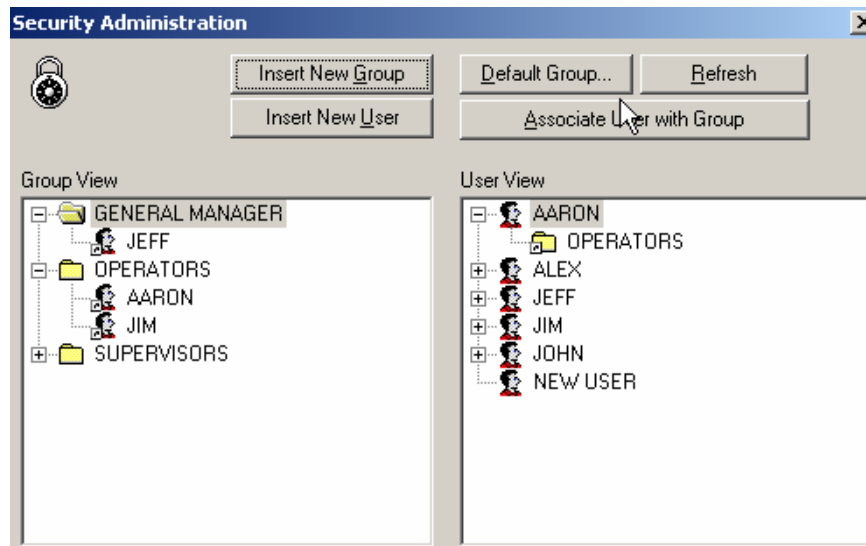

Figure 9.69. Editing the Default Group
1. To edit the default group, click the **Default Group** button in the Security Administration console, as shown in **Figure 9.69**.